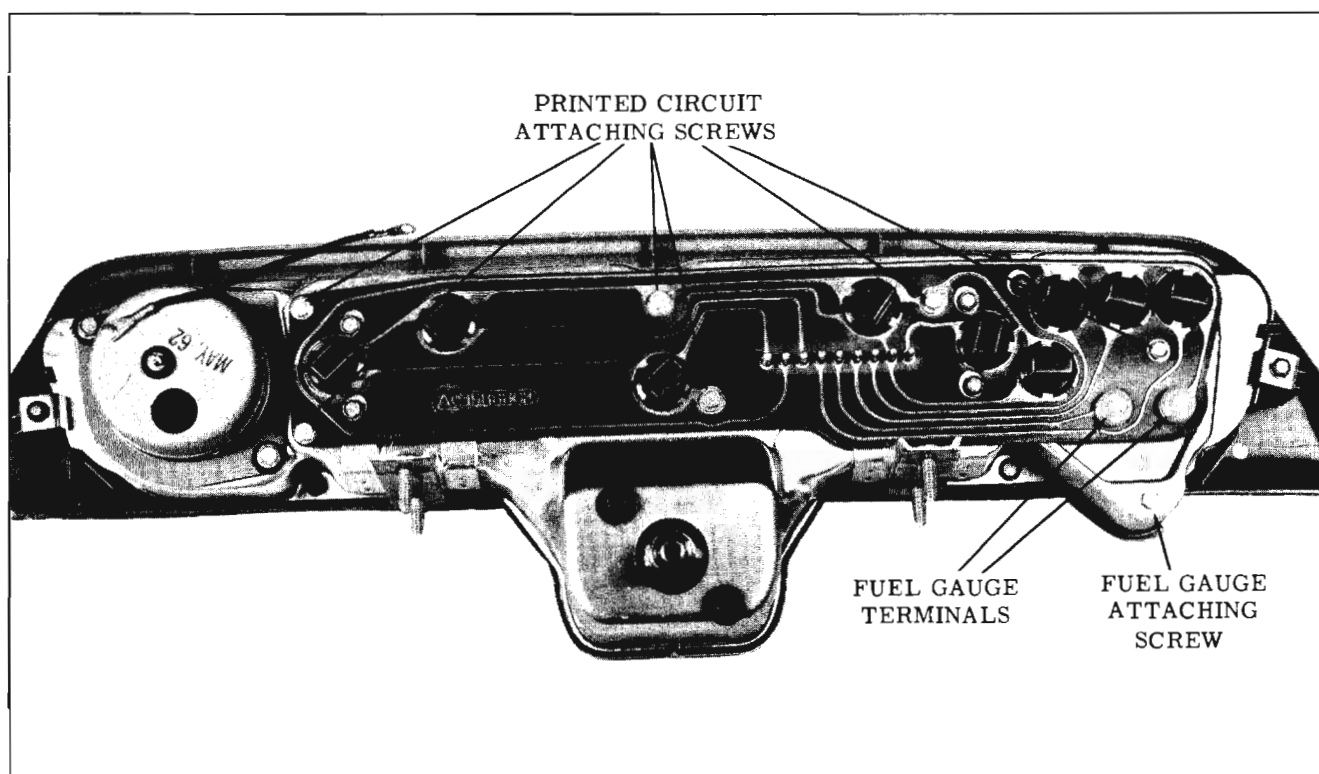

Fig. 13-104 Printed Circuit Removal
1. Remove all cluster lamp sockets and the six circuit attaching screws. (Fig. 13-104)